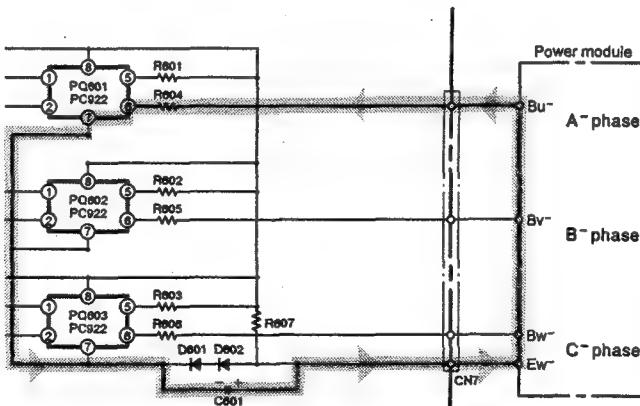
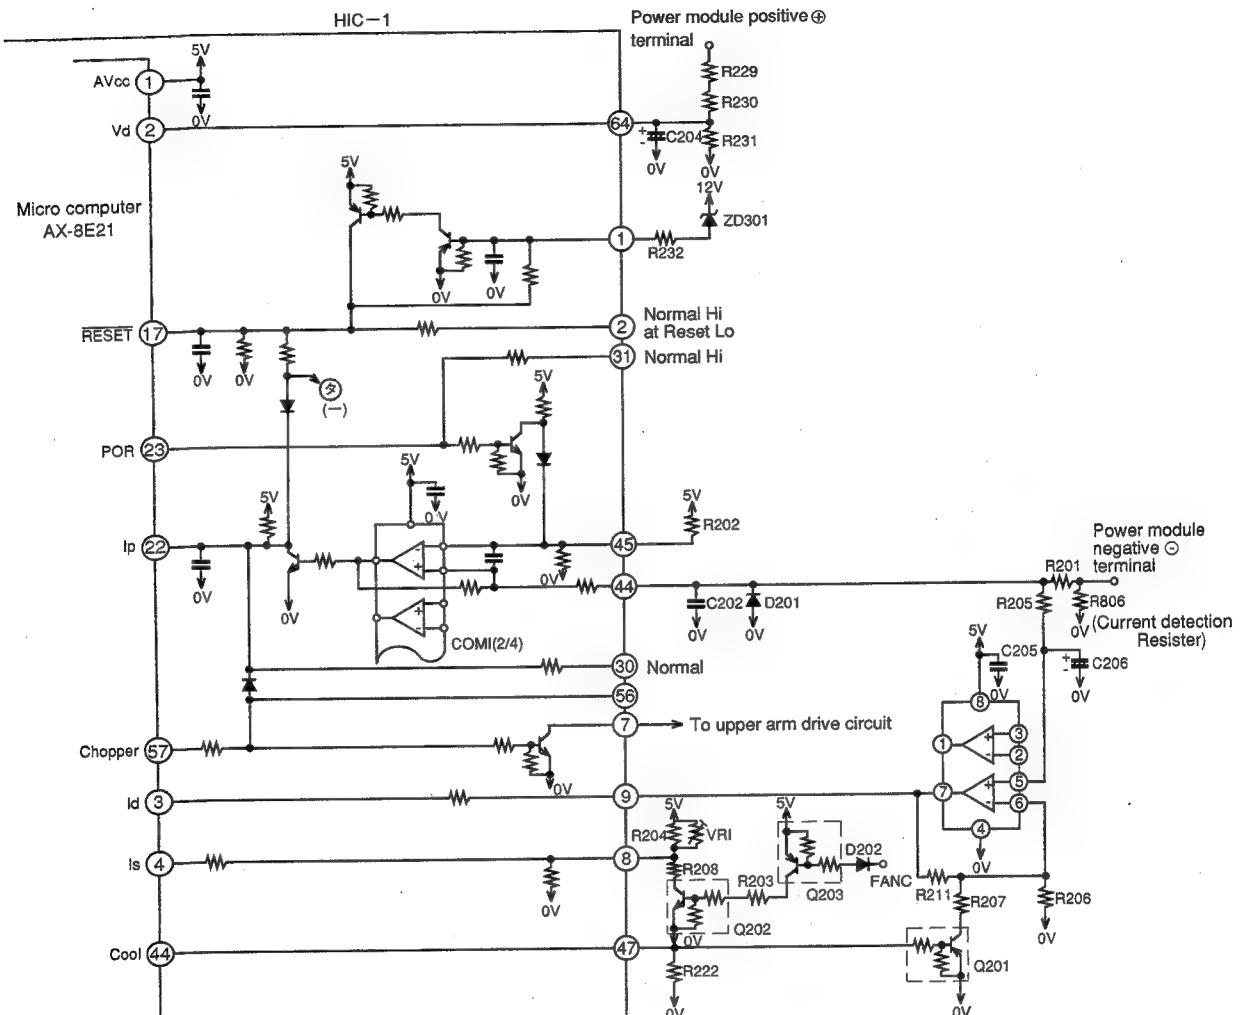

Fig. 7-5
Fig. 8-1 Micro computer(AX-8E21) and peripheral circuits
- When pin ⑬ of the micro computer goes "Hi" → "Lo", a photocoupler between PQ601 pins ① and ② turn off and reverse bias current flows to C601 → power module's Ew terminals → Bu terminals → R604 → PQ601 to cut off the lower arm transistors. (Fig. 7-5)
- When the peak current cut off function operates, HIC-1 ⑩ pins become 0V, PQ501-PQ503 and PQ601-PQ603 turn off and the upper/lower arm drive circuits stop.
- When a reset signal is applied, HIC pins ⑦ and ⑬ become open, PQ501-PQ503 and PQ601-PQ603 turn off and the upper/lower arm drive circuits stop.
- Fig. 8-1 shows the micro computer and its peripheral circuits, Table 8-1, the basic operations of each circuit block, and Fig. 8-2, the system configuration.